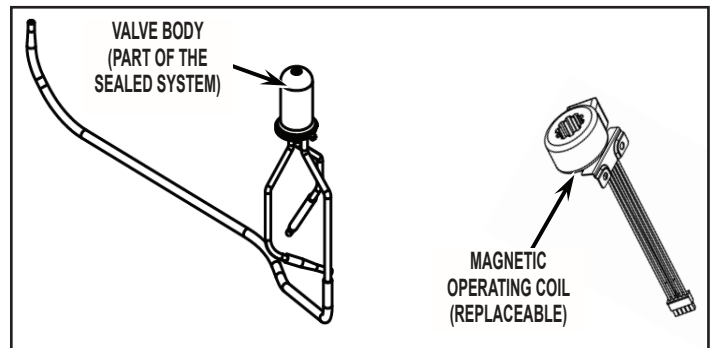

FIGURE 2
3. The 3 way refrigerant valve (RKV) consists of 2 separate components, a replaceable magnetic operating coil and the actuating valve (valve body). The valve body is part of the sealed system and requires no repair unless there is a leak at one of the joints (see *Refrigerant Recovery and Charging Procedures*, page 6-1). The magnetic operating coil is replaceable. See Figure 2.